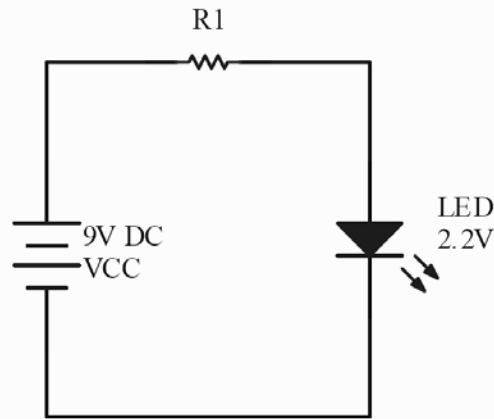

Figure 8 – LED Circuit 2
3. Configure the LED circuit shown in figure 8 onto a protoboard. The exact value of the resistor calculated may not exist. Use the closest resistor value that you can find but be on the safe side. In other words, choose a resistor with value closest to the calculated resistance that will result in no more than 20mA current. Measure the voltage drop across the LED.